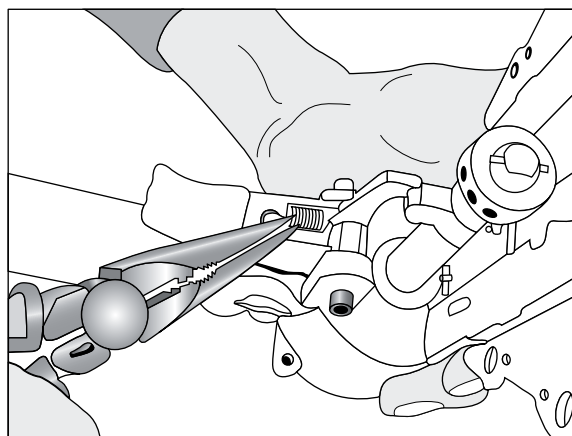

Figure 28
2. Remove spring with needle nose pliers. (See Figure 28)